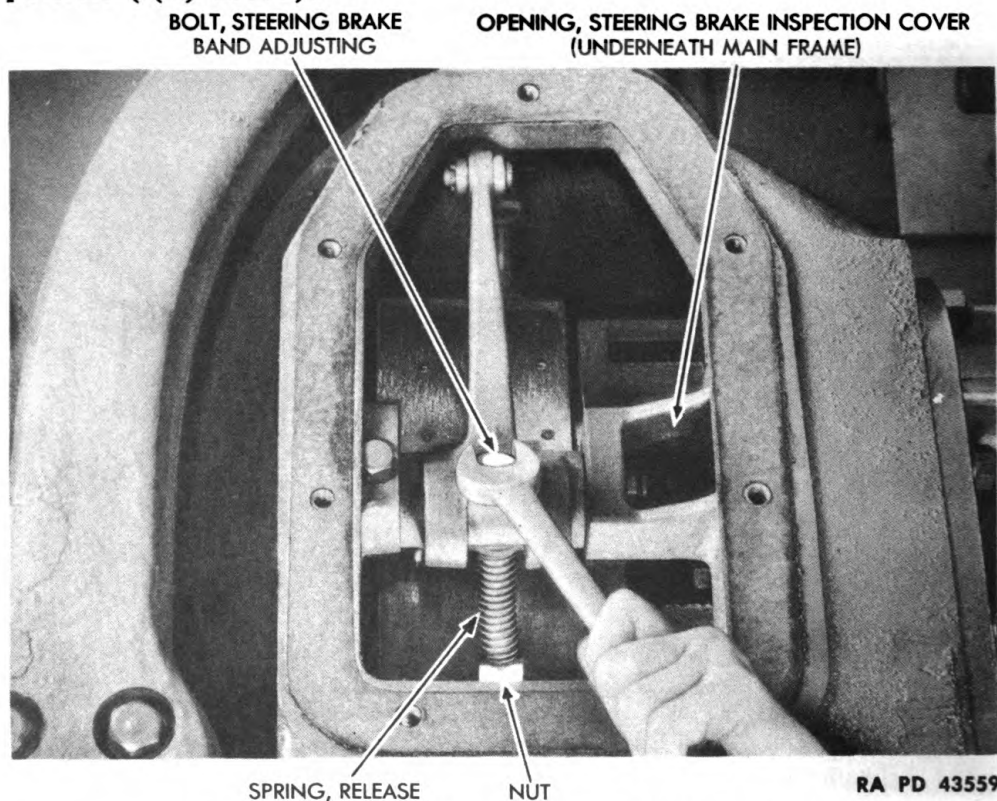

Figure 80 — Steering Brake Band Adjustment
(2) **ADJUST STEERING BRAKE BANDS** (fig. 80).